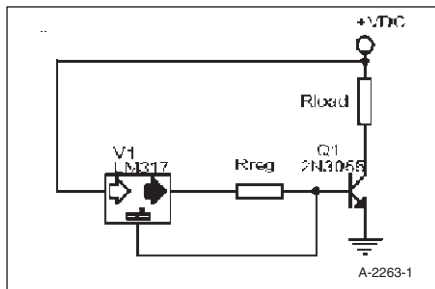

FIGURE 1: Current-regulation circuit.
I wanted a circuit that could perform current regulation but at a higher current level than what the LM317 could provide by itself. *Figure 1* shows my circuit solution that uses a 2N3055 high power pass transistor in the same way as the high current voltage-regulator circuit, but the pass transistor's base is driven with the LM317 in a current-regulator configuration. Another benefit of this circuit is that you can easily obtain the parts at Radio Shack.
*Figure 1* uses a typical 2N3055 bipolar power transistor as a pass element Q1. Rload represents the high current heaters of a set of tubes. The voltage supply +VDC is the voltage at which the tubes need to operate—plus a little more because Q1 is going to inherently drop some voltage across the collector-emitter junction. The voltage supply could be voltage regulated if you choose.